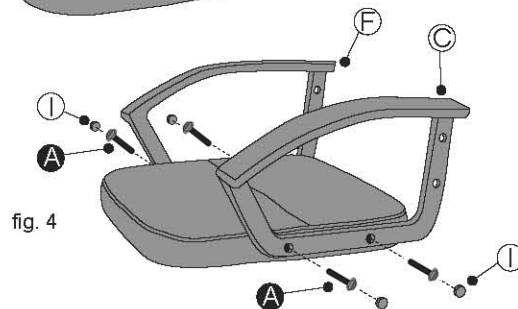

fig. 4
2. Use the Screw **A** to fix the Left Armrest **C** and Right Armrest **F** into the Seat Cushion. Then use Plastic Plug **I** to cover the Screws. See fig. 4.
2. Use Bolts **A** to fix the Left Armrest **C** and Right Armrest **F** into the Seat Cushion. Then use Plastic Plug **I** to cover the Bolts. See fig. 4.